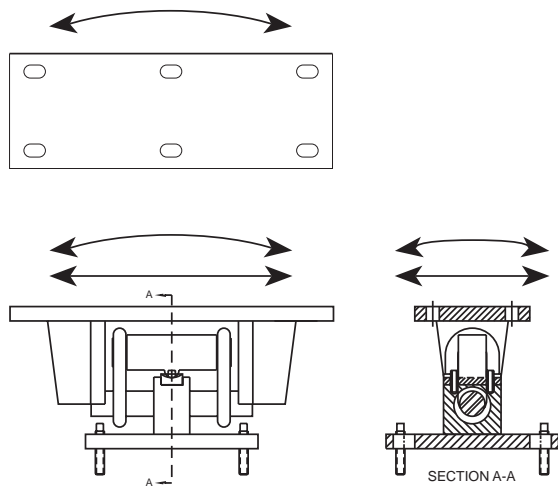

Figure 2-28
- 3) This arrangement allows movement in all horizontal directions, as shown in Figure 2-28.